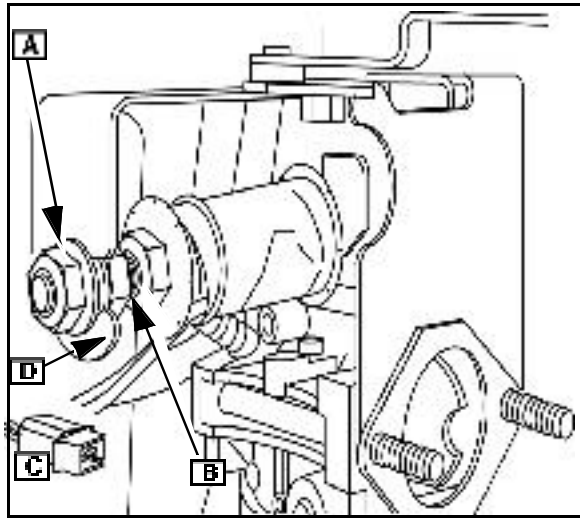

Fig. 44
1. Loosen both adjusting nuts ([A] and [B] Fig. 44). Then, unscrew nut (A) until flush with end of bolt.
3. With the engine running, apply 12VDC to white connector with the blue wires ([C] Fig. 44). Extended governor will be pulled against head of idle down bolt. ([C] Fig. 44).
4. Adjust nut ([A] Fig. 44) to obtain **2100-2500 RPM**.
5. Hold nut and idle down control in this position and tighten nut ([B] Fig. 44) to listed value.